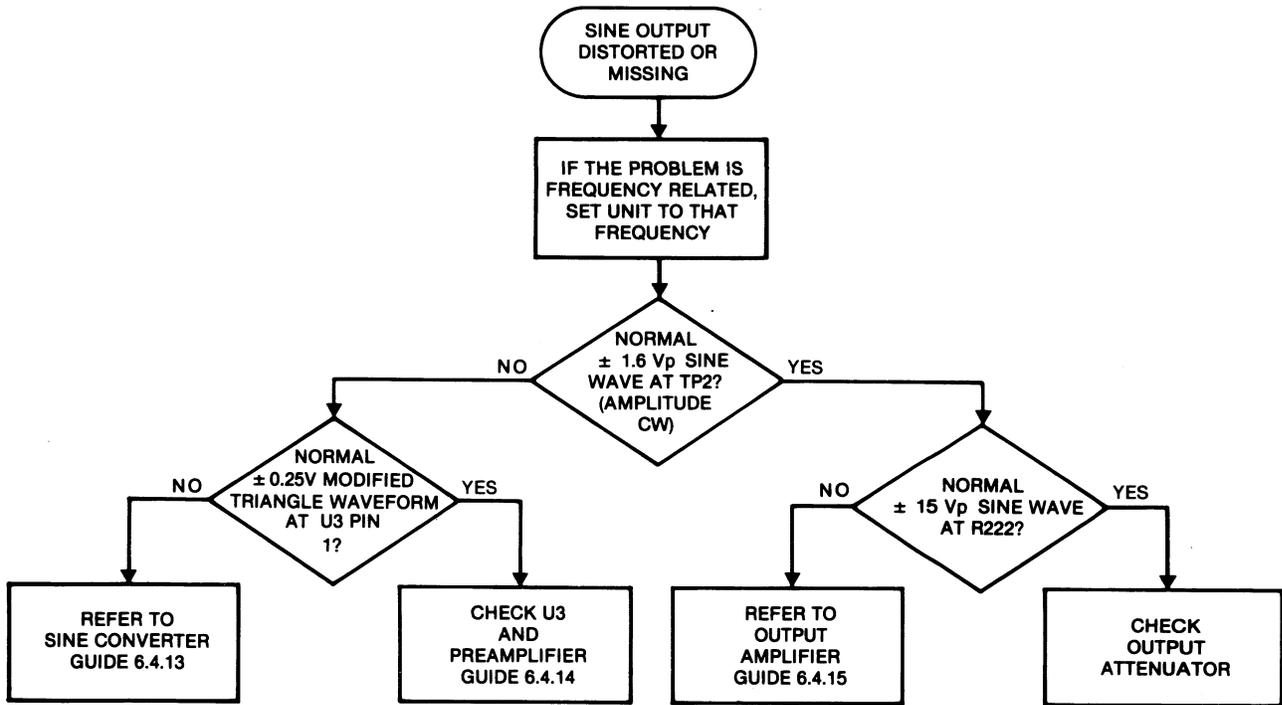

Figure 6-3. Sine Output Troubleshooting
5. If none of the above conditions apply, refer to figure 6-3.